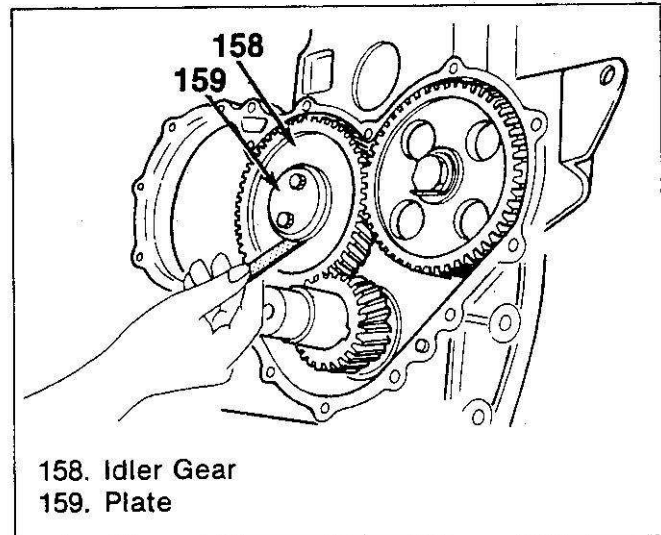

Figure 80. Measuring Idler Gear End Play
- Idler gear (158) end play, as shown in figure 80. Production end play is 0.058–0.115 mm (0.002–0.005 in). If greater than 0.2 mm (0.008 in), the idler gear (158) and/or hub (157) should be replaced.